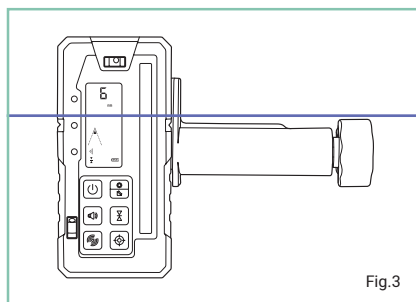
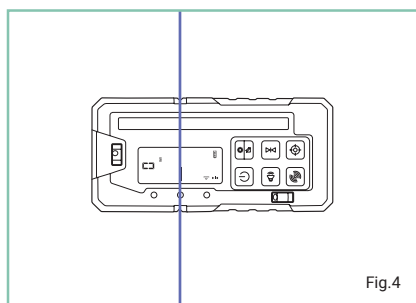
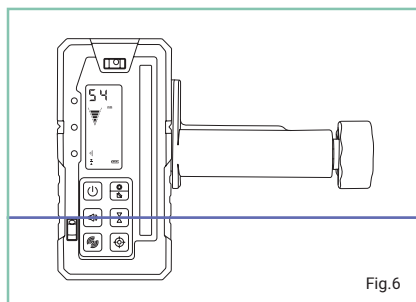

Fig.3
Fig.4
Fig.6
- Move the detector into the path of the beam. Hold the detector upright for horizontal beams (Fig.3) or rotate 90° for vertical beams (Fig.4).
- The direction arrows or level line on the LCD screen will indicate the position of the laser beam. The digital display will indicate a millimetre reading of the adjustment required (Fig.3 & Fig.6).